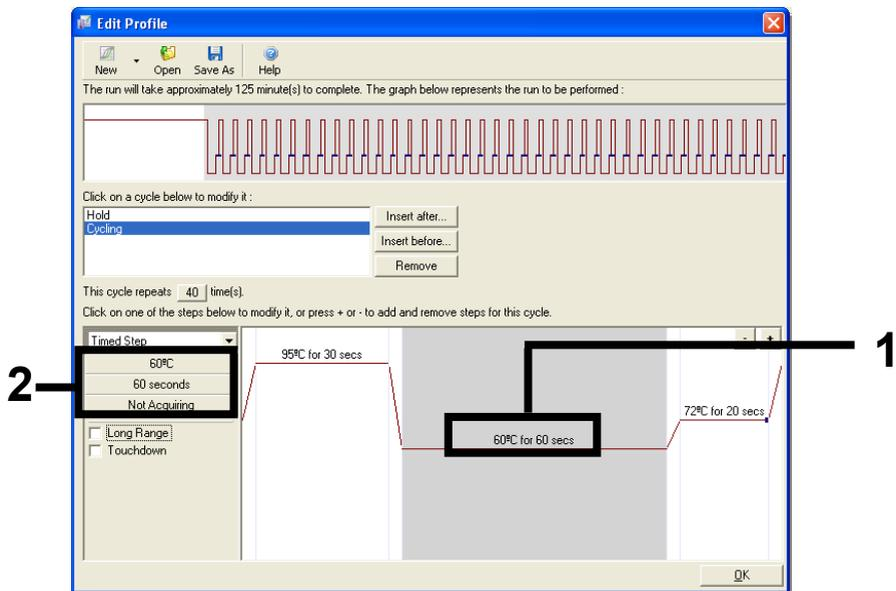

Figure 15. Cycling step at 60°C. 1 = second step temperature and time setting, 2 = Not Acquiring.
9. Highlight the second step and set to “60°C for 60 seconds.” Enable data acquisition during this step by selecting “Not Acquiring” (Figure 15).